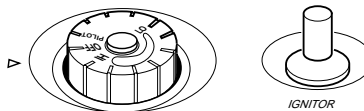

Figure 19 - Control Knob for Thermostat Model CGS10P
3. Turn control knob clockwise  to the OFF position (see Figure 19).
4. Wait five (5) minutes to clear out any gas. Smell for gas around heater and near floor. If you smell gas, STOP! Follow "B" in the safety information in column 1. If you don't smell gas, go to next step.
5. Turn control knob counterclockwise  to the PILOT position. Press in control knob for five (5) seconds.
8. Turn control knob counterclockwise  to desired heating level. The main burner should light. Set control knob to any heat level between HI and LO (see Figure 19).